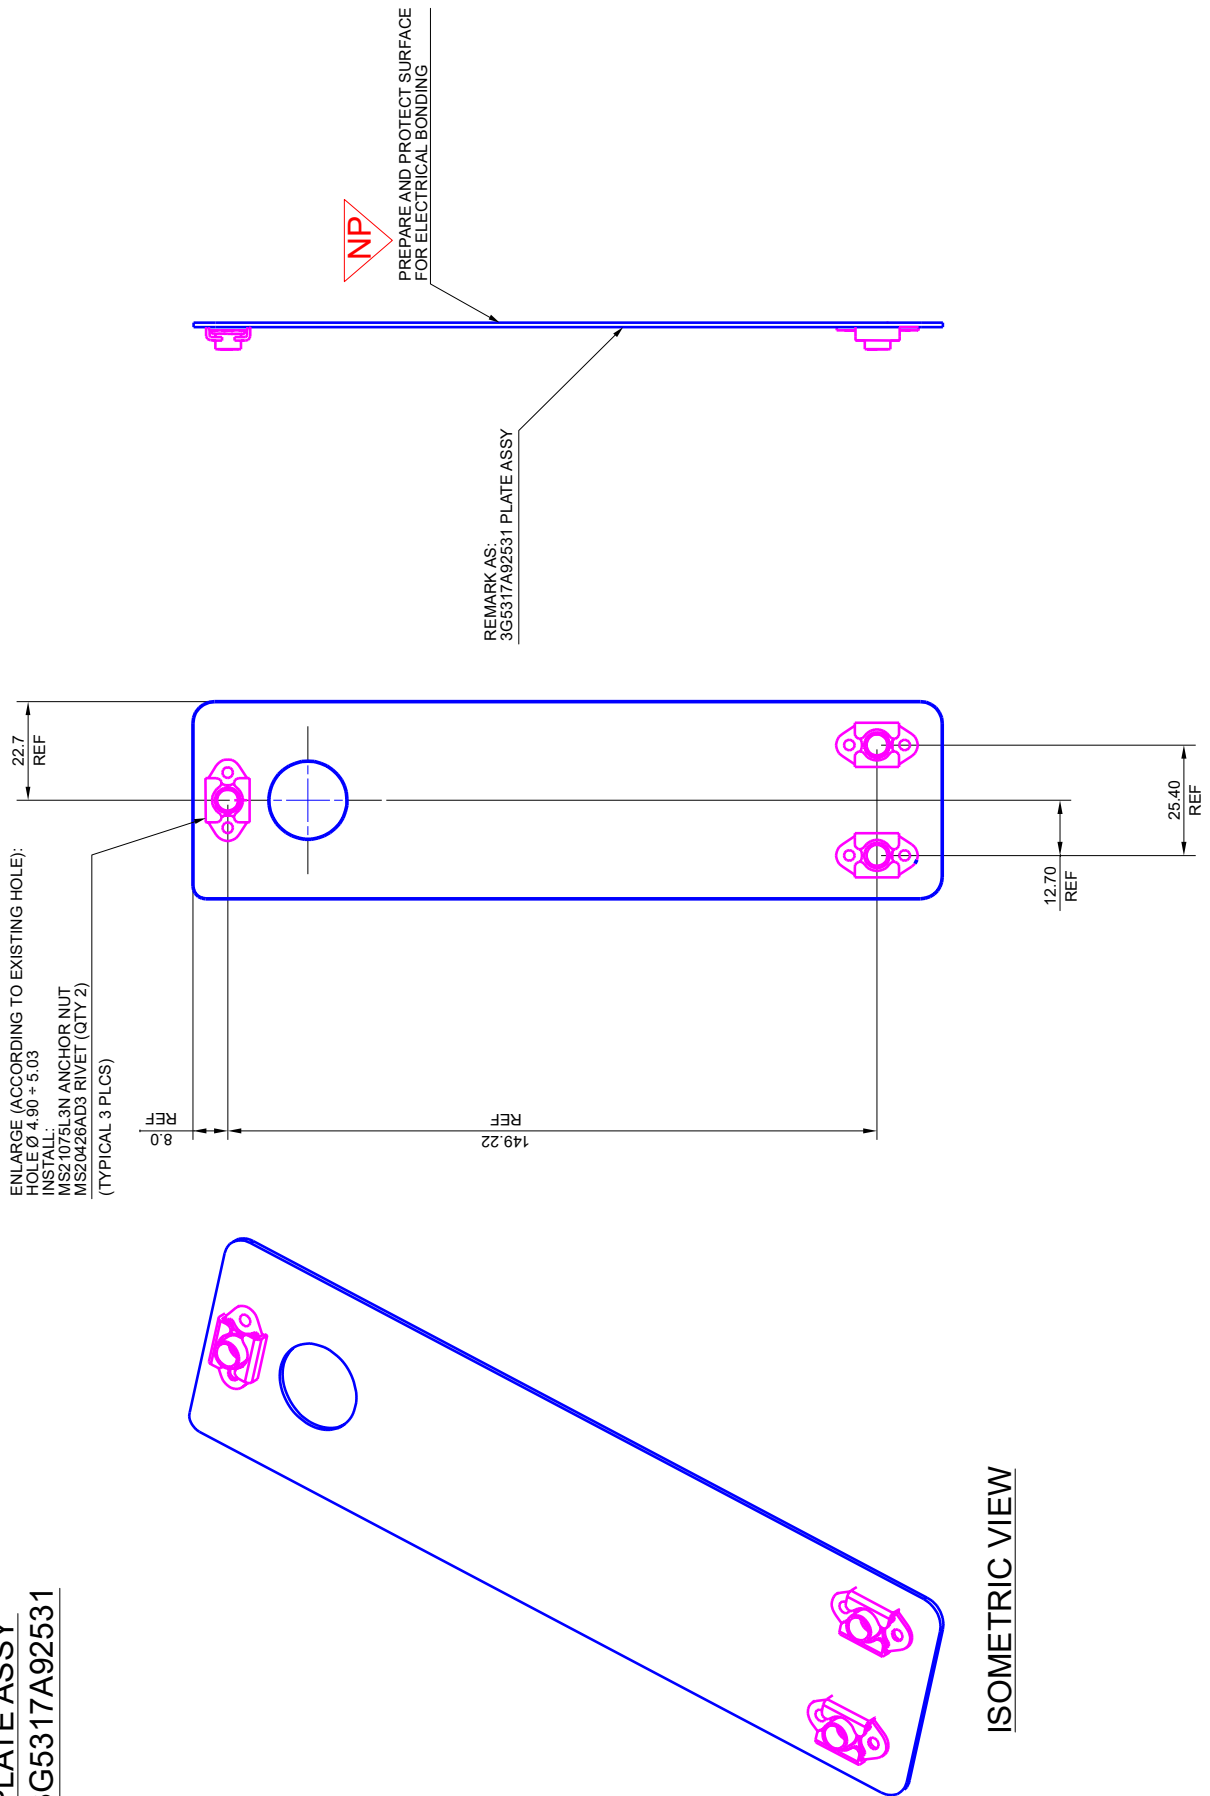

Figure 5
- 2.1.5 With reference to Figure 5, assemble the two plate assy P/N 3G5317A92531 as follows:
- 2.1.5.1 With reference to Figure 5, enlarge n°3 holes \varnothing 4.90 – 5.03 on each plate 3G5317A92551M01.
- 2.1.5.2 With reference to Figure 5, install n°3 anchor nuts P/N MS21075L3N on each plate 3G5317A92551M01 by means of n°6 rivets P/N MS20426AD3-4.
- 2.1.5.3 With reference to Figure 5, remark each plate assy as 3G5317A92531.